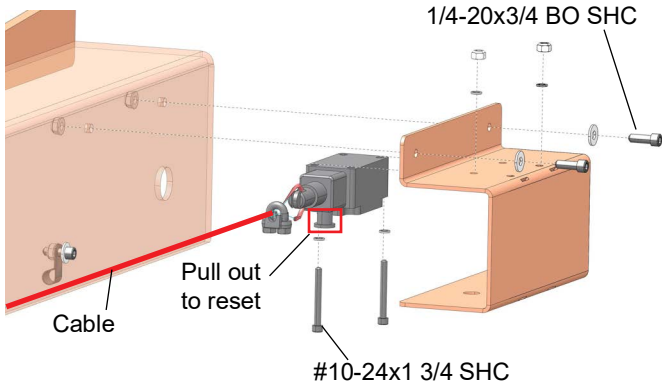

FIG. 4-15
3. Install the safety switch, cover, and cable as shown in FIG. 4-15.